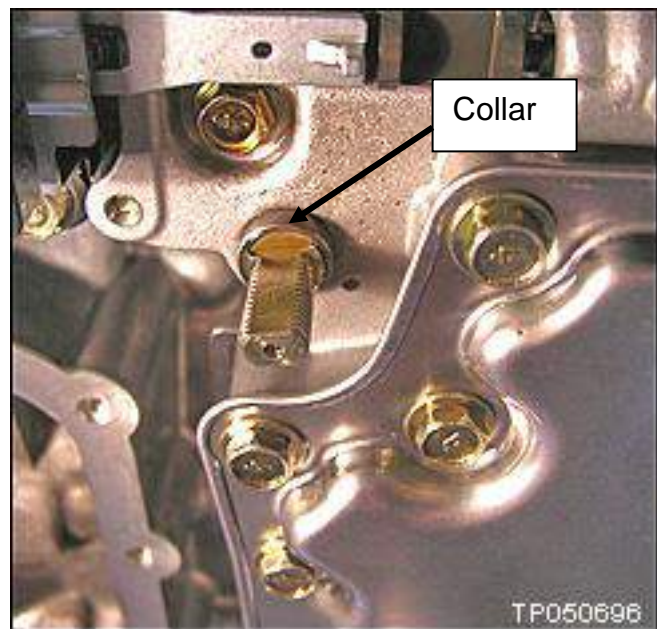

Figure 5
20. Re-install the collar on the manual shaft removed in Step 9 (see Figure 5).